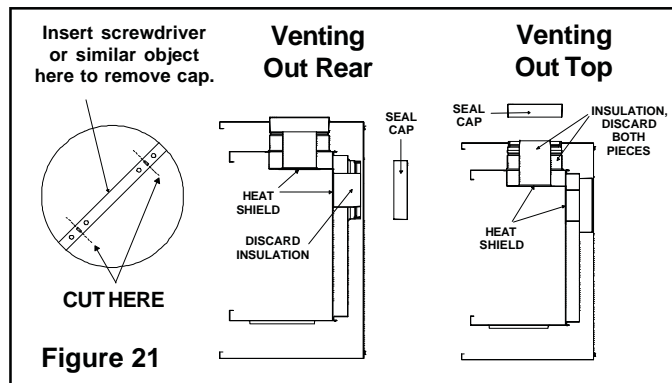

Figure 21
Venting Out the Rear Vent (See Figure 21)
WARNING: THE TOP HEAT SHIELD (INSIDE THE FIREBOX) MUST REMAIN ATTACHED IF THE VENT SYSTEM IS ATTACHED TO THE REAR STARTING COLLARS. SEE FIGURE 21.
- ◆ Remove the top vent collar seal cap by removing the two screws from the upper heat shield. Remove the insulation inside **BOTH** the 4" diameter and 6 5/8" diameter collars. (See Figure 21).
WARNING: THE REAR VENT COLLAR SEAL CAP MUST REMAIN ATTACHED TO THE REAR VENT COLLARS IF THE VENT SYSTEM IS ATTACHED TO THE TOP STARTING COLLARS. SEE FIGURE 21.